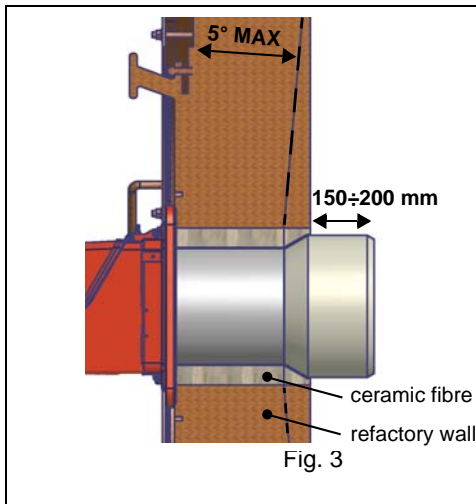
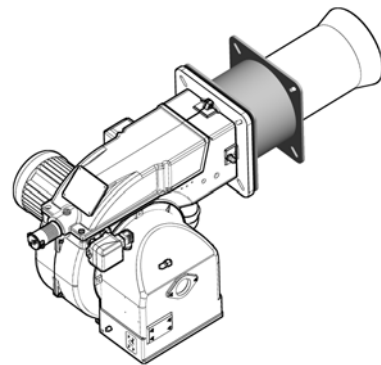

Fig. 3
Fig. 4
- Cast-iron boilers, three pass flue boilers (with the first pass in the rear part): the blast tube must protrude about 150÷200 mm into the combustion chamber (Fig. 3). The length of the blast tubes does not always allow this requirement to be met, and thus it may be necessary to use a suitably-sized spacer to move the burner backwards (Fig. 4).
3. tighten screws A, B, C and D (Fig. 4 - Fig. 5), according to the mounting positions (Fig. 7);